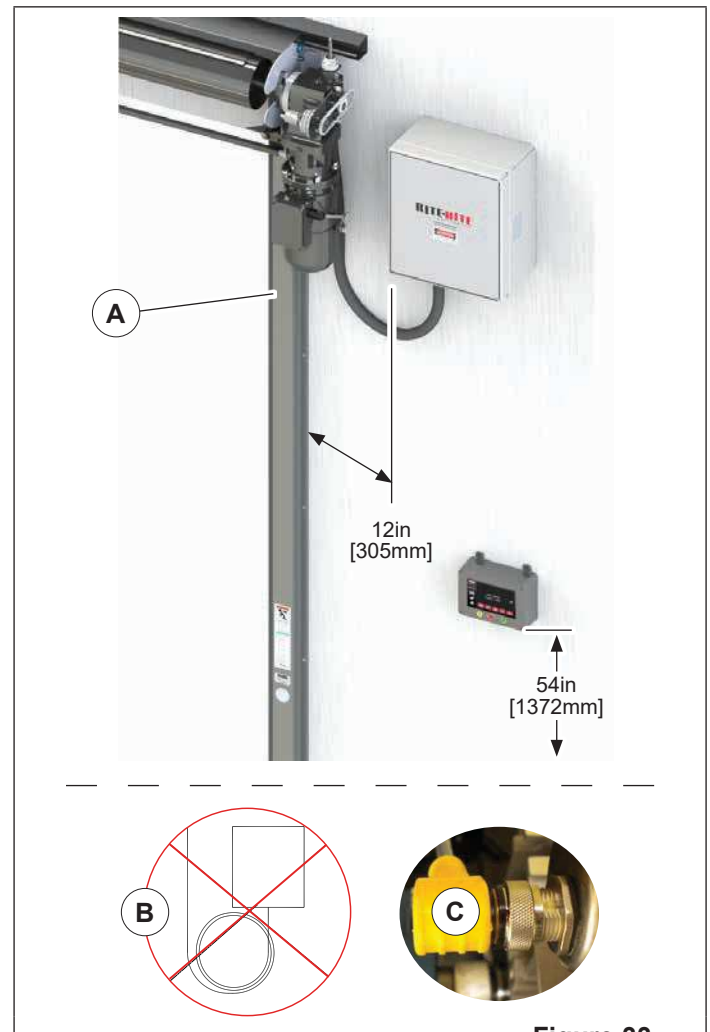

Figure 33
15. Connect ground wire (A) from motor cable to lower track (Figure 33 on page 22).
DO NOT coil (B) or let conduit hang on the floor (Figure 33 on page 22).
5. Connect the encoder cable (C) to the encoder (Figure 33 on page 22). Make sure to line up pins properly. Make sure connector is tight, but **DO NOT** over-tighten as pins will twist. Once tight, the connector should not be able to move back and forth.
2. Connect the encoder cable (C) to the encoder (Figure 33 on page 22). Make sure to line up pins properly. Make sure connector is tight, but **DO NOT** over-tighten as pins will twist. Once tight, the connector should not be able to move back and forth.